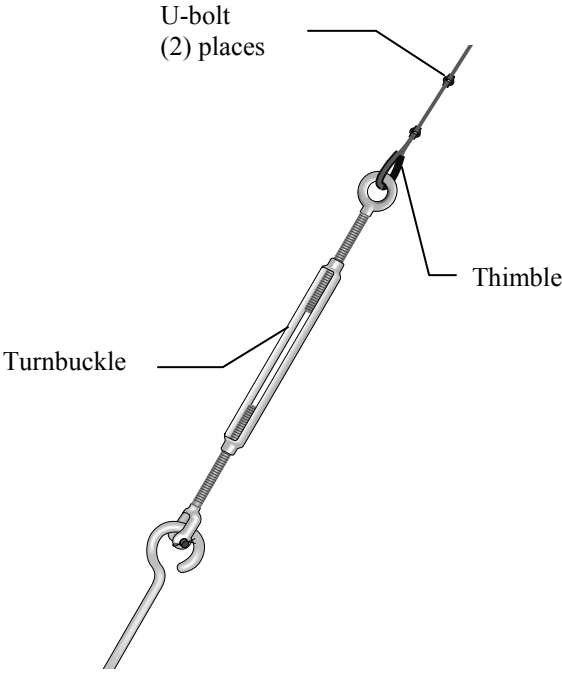

FIGURE 2.1-9. Guy wire/turnbuckle attached to UTEYE anchor
5. Attach the guy wires to the anchors (Figure 2.1-9). Unscrew the jaw and eye bolts until 1 inch of thread extends through the turnbuckle body. Attach the jaw end of the turnbuckles to the anchors. While holding the tower plumb, attach the guy wires to the eye end of the turnbuckles using a thimble and two U-bolts for each guy wire. Tighten the turnbuckles until the guy wires are snug and the tower is plumb. Do not overtighten the turnbuckles.